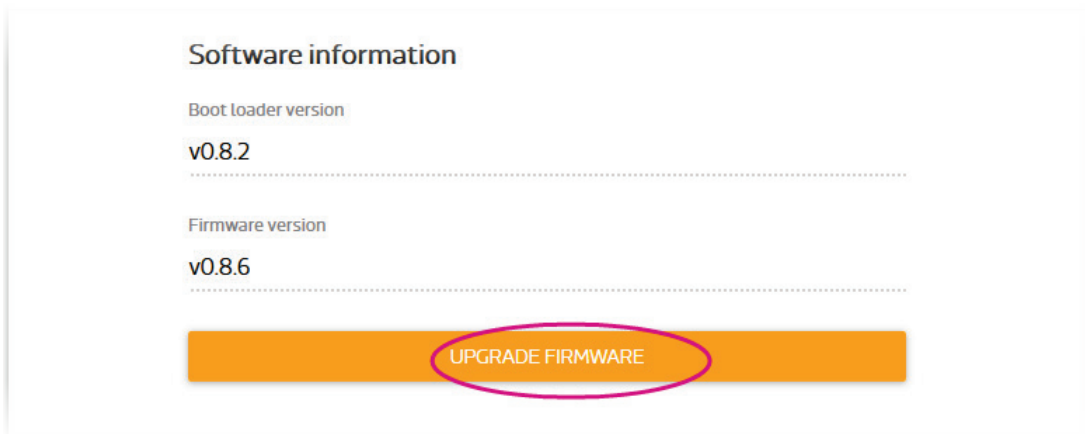

Figure 16 Firmware upgrade button
- 2) After you've signed in, click on the Upgrade firmware button as shown in Figure 16.